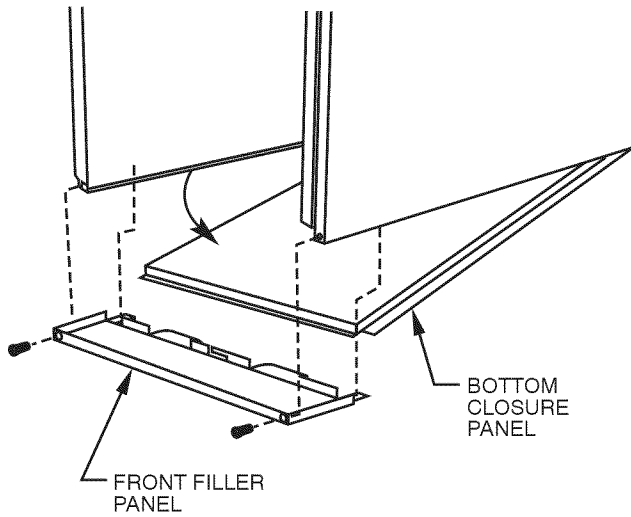

Fig. 29 - Removing Bottom Closure Panel
1. Tilt or raise furnace and remove 2 screws holding front filler panel. (See Fig. 29.)